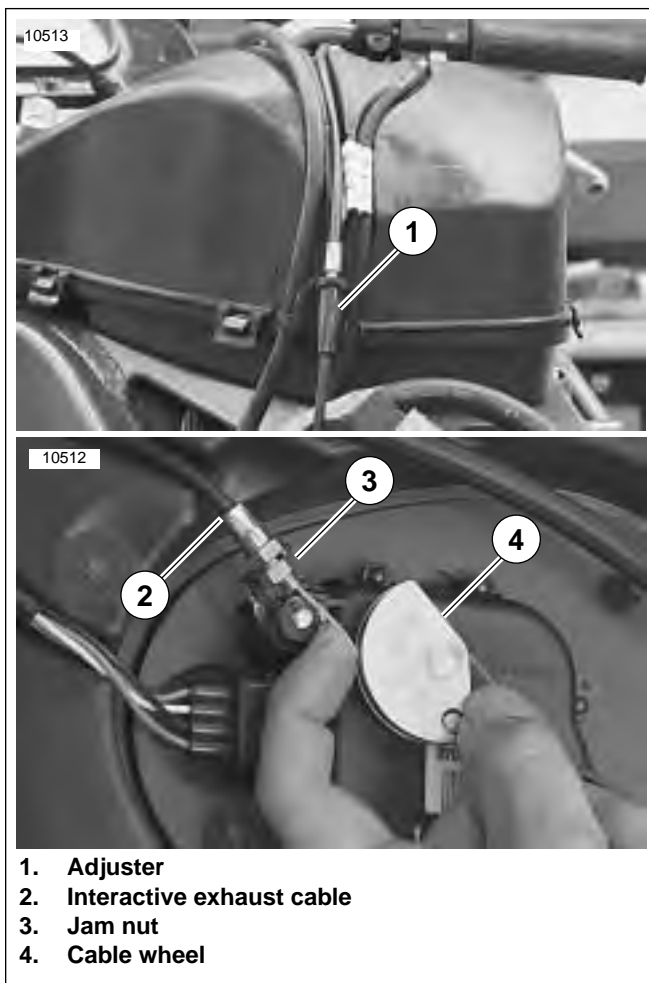

Figure 1-46. Interactive Exhaust Cable
- See Figure 1-46. Loosen jam nut (3).
- Remove cable (2) from bracket and cable wheel (4).
- See Figure 1-46. Move cable with your fingers from side to side. There should be no more than 1/8 in. (3.18 mm) sideplay in cable in either direction with 1/4 in. (6.36 mm) maximum overall sideplay.
- Adjust cable as needed using cable adjuster (1).